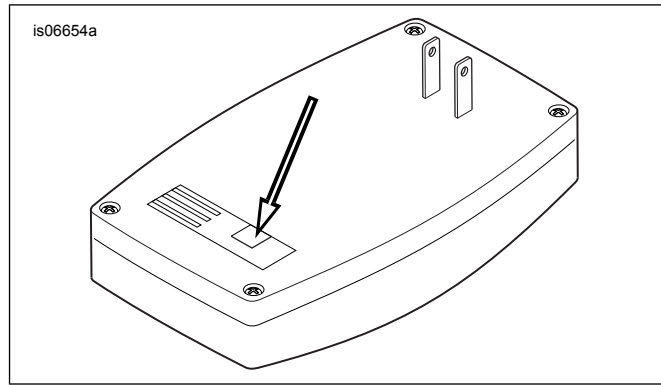

Figure 2. Garage Door Opener Receiver, Back View
7. See Figure 2. Plug the connector on the Harley-Davidson garage door opener receiver cable assembly into the back of the Harley-Davidson garage door opener receiver in the location shown.